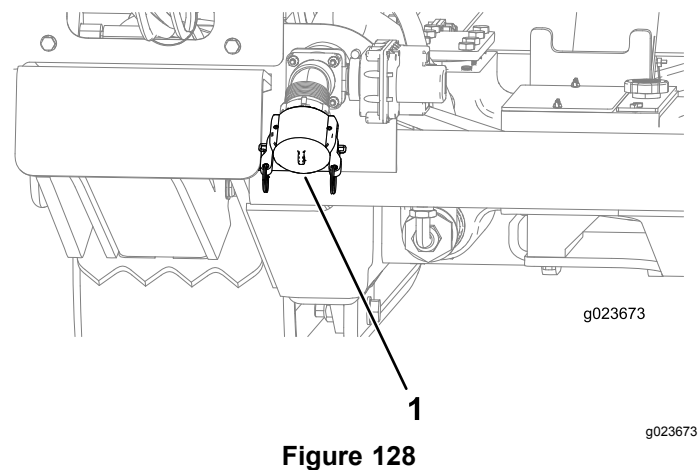

Figure 128
- B. Ensure that the cap is installed on the drilling-fluid pump inlet (Figure 128).